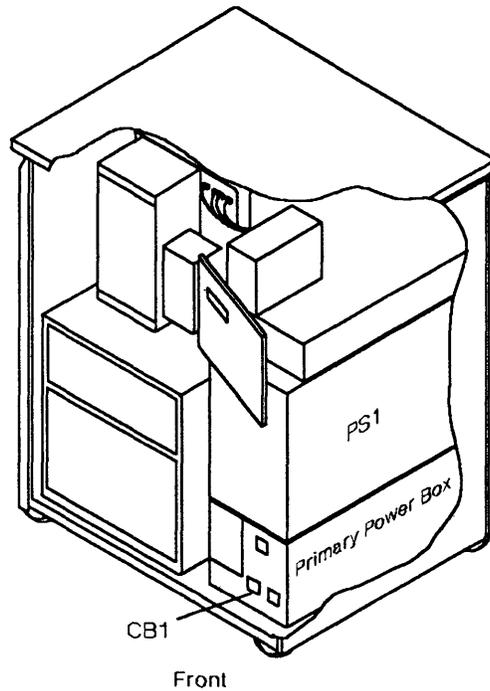

Figure 4-82. Power Supply 1 and CB1 Locations
5. Switch **CB1 OFF**. Refer to Figure 4-82.
6. Locate PS1 and Primary power box. Refer to Figure 4-82.